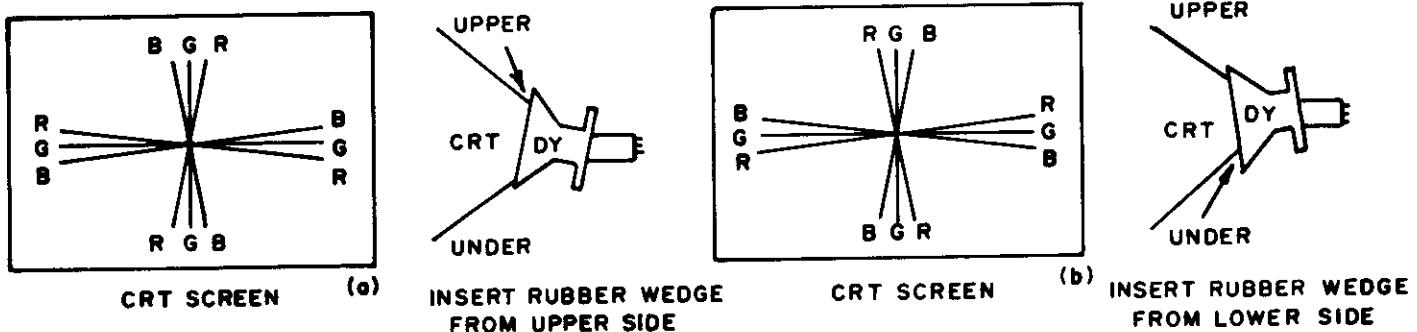

FIGURE 8
- 4.2 Insert a wedge temporarily and fix the Deflection Yoke so as to obtain the best circumference convergence (See Fig. 8 and 9).
- 1) Tilting the angle of the yoke up and down adjusts the crossover of both vertical and horizontal red and blue lines. See Fig. 8 (a) and (b).